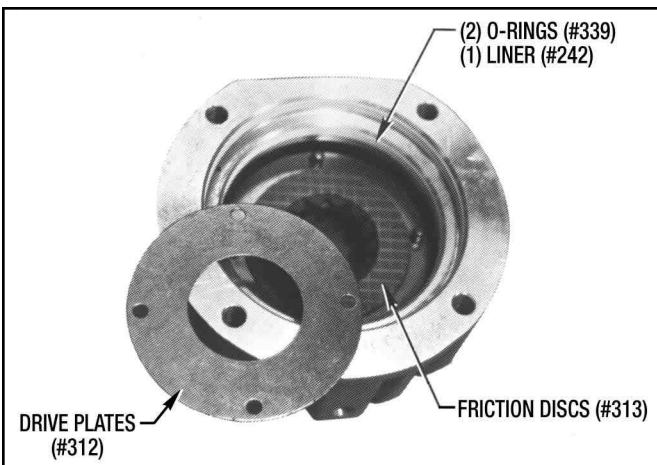

Figure 9.16 - End Housing Subassembly
1. Using Friction Discs (#313) and Drive Plates (#312) build up the Brake Stack, noting the following: (See Figure 9.16)